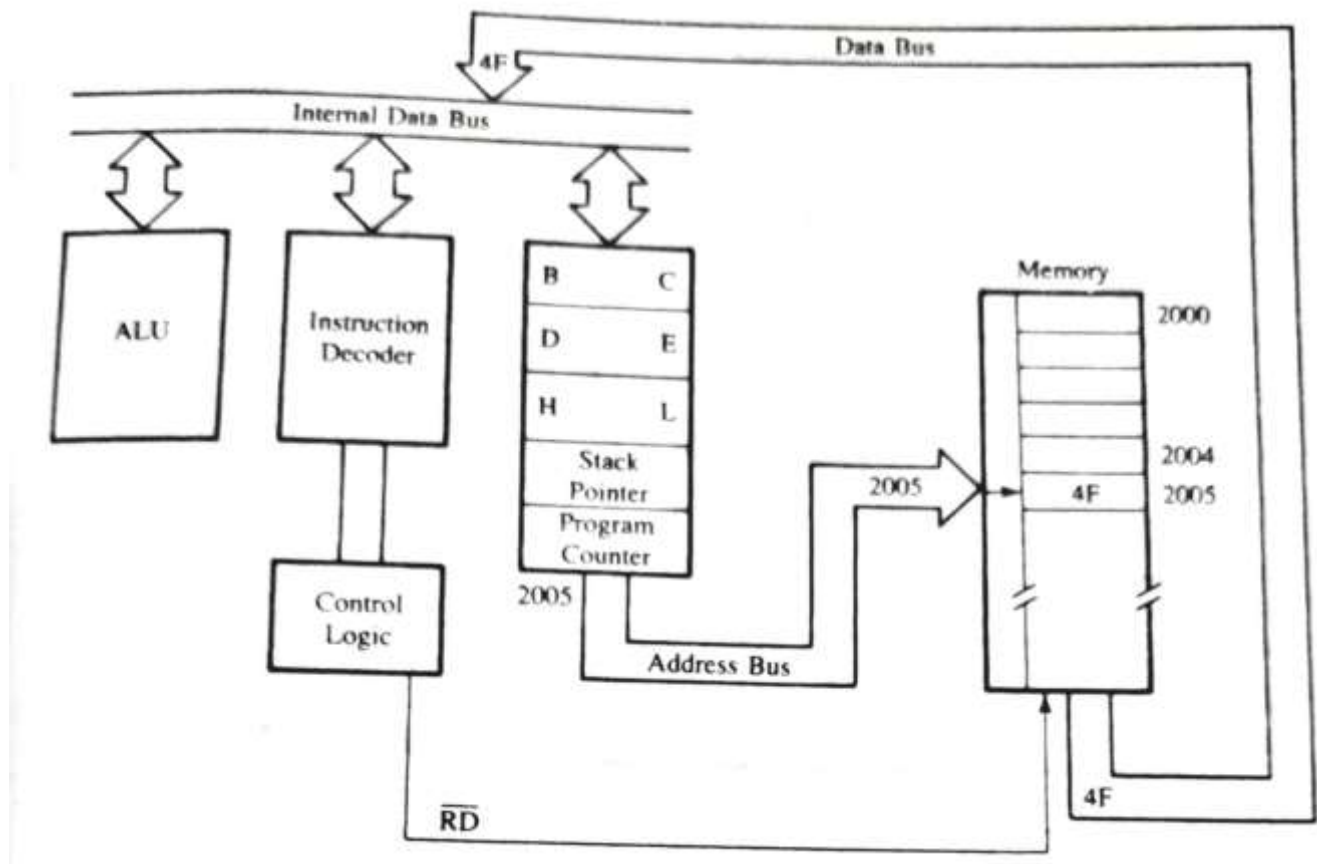
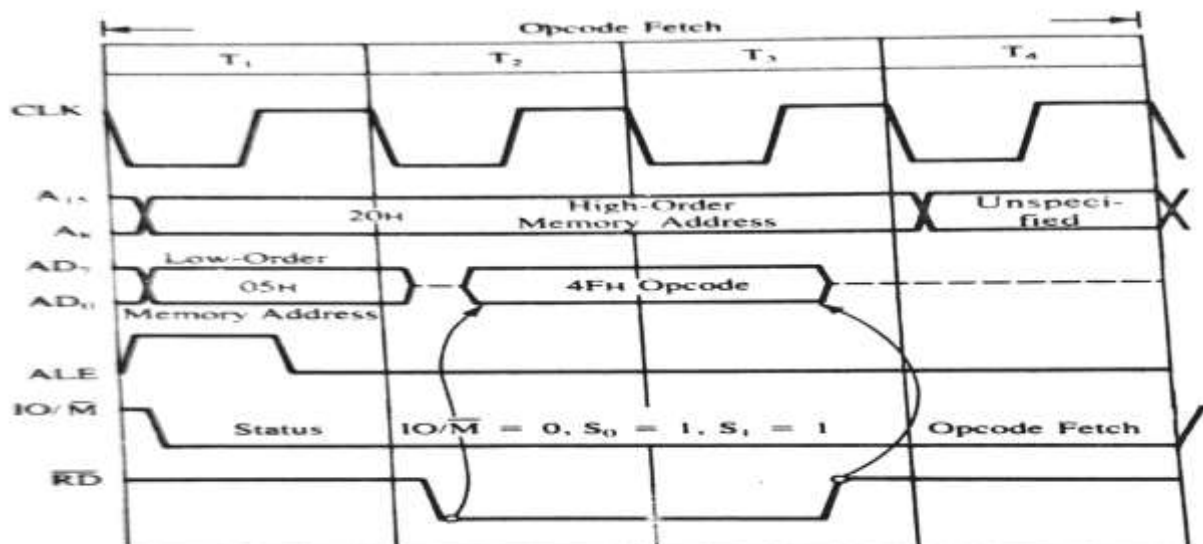
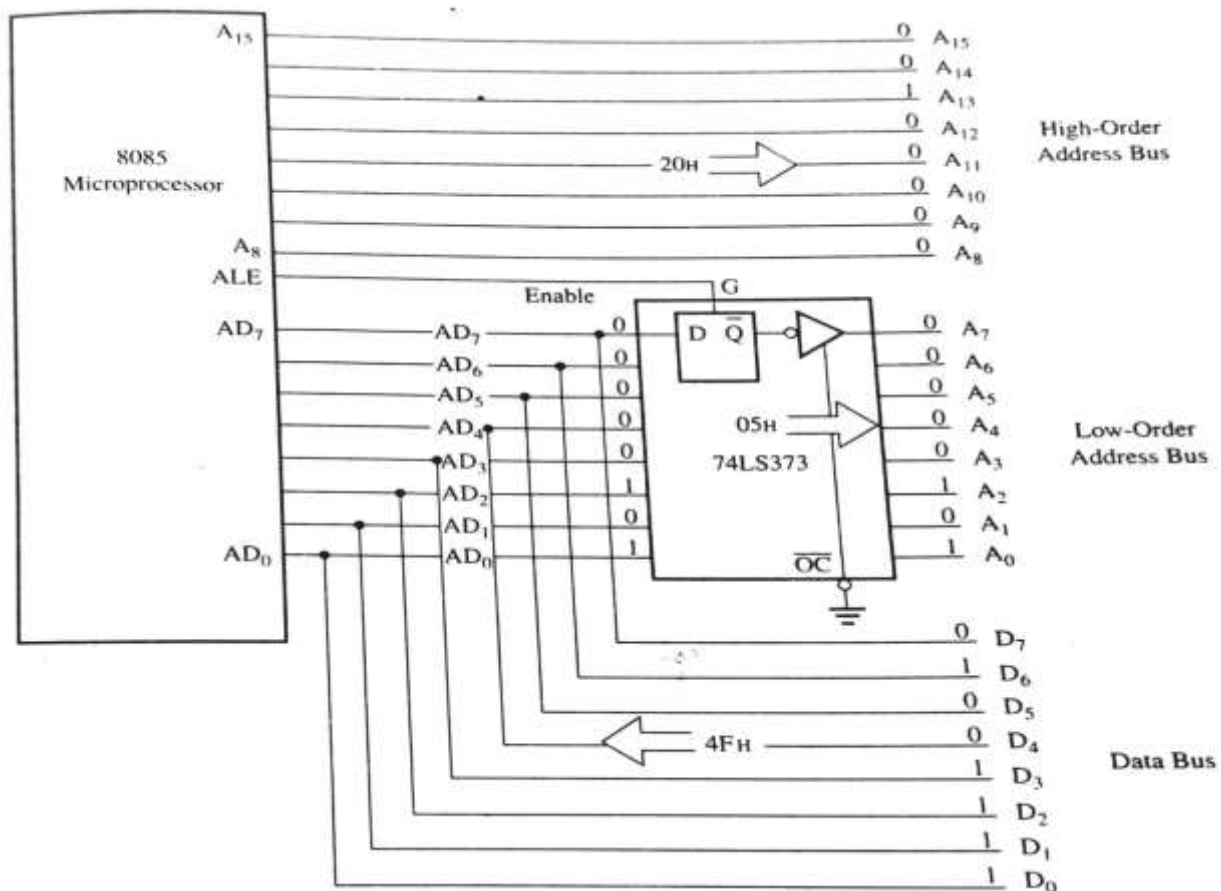

FIGURE. 2 : Data Flow from Memory to the MPU
Figure 3 : Timing:transfer byte from memory to MPU
Figure 4 Schematic of Latching Low-Order Address Bus
To fetch the byte (4FH), the MPU needs to identify the memory location 2005H and enable the data flow from memory. This is called the Fetch cycle. The data flow is shown in Figure 2, and the timings are explained below.
Figure 3 shows the timing of how a data byte is transferred from memory to the MPU: it shows five different groups of signals in relation to the system clock. The address bus and data bus are shown as two parallel lines. This is a commonly used practice to represent logic levels of groups of lines; some lines are high and others are low. The crossover of the lines indicates that a new byte (information) is placed on the bus, and a dashed straight line indicates the high impedance state.
Step 1: The microprocessor places the 16-bit memory address from the program counter (PC) on the address bus (Figure 2). In our analogy, this is the equivalent of our courier getting on the road to find the address.
Figure 3 shows that at T1, the high-order memory address 20H is placed on the address lines A15-A8, the low-order memory address 05H is placed on the bus AD7-AD0 and the ALE signal goes high. Similarly, the status signal IO/M' goes low, indicating that this is a memory-related operation. (For the sake of clarity, the other two status signals, S1 and S0, are not shown in Figure 3;
Step 2: The control unit sends the control signal RD to enable the memory chip (Figure 2). This is similar to ringing the doorbell in our analogy of a package pickup. The control signal RD' is sent out during the clock period T2, thus enabling the memory chip (Figure 3). The RD' signal is active during two clock periods.
Step 4: The byte is placed in the instruction decoder of the microprocessor, and the task is carried out according to the instruction. The machine code or the byte (4FH) is decoded by the instruction decoder, and the contents of the accumulator are copied into register C. This task is performed during the period T4, in Figure 3.
The need for demultiplexing the bus AD7-AD0, becomes easier to understand after examining Figure 3. This figure shows that the address on the high-order bus (20H) remains on the bus for three clock periods. However, the low-order address (05H) is lost after the first clock period. This address needs to be latched and used for identifying the memory. If the bus AD7-AD0 is used to identify the memory location (2005), the address will change to 204FH after the first clock period. Figure 4 shows a schematic that uses a latch and the ALE signal to demultiplex the bus. The bus AD7-AD0, is connected as the input to the latch 74LS373. The ALE signal is connected to the Enable (G) pin of the latch, and the Output control (OC') signal of the latch is grounded.
Figure 3 shows that the ALE goes high during T1. When the ALE is high, the latch is transparent; this means that the output changes according to input data. During T1 the output of the latch is 05H. When the ALE goes low, the data byte 05H is latched until the next ALE, and the output of the latch represents the low-order address bus A7-A0 after the latching operation.
After carefully examining Figure 3, we can make the following observations the ALE signal.
In Figure 3, the instruction cycle and the machine cycle are the same.
Figure 3 shows the RD' (Read) as a control signal. Because this signal is used both for reading memory and for reading an input device, it is necessary to generate two different Read signals: one for memory and another for input. Similarly, two separate Write signals must be generated.